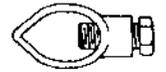

Figure 5 - Clamp for 1/2-inch thick rod
6) Replacement ground rod clamps, NSN 5975-01-034-8882, can be obtained for the 8-foot long, 1/2-inch thick ground rod (see figure 5). Note that these clamps cannot be used with the thicker, 6-foot ground rod.